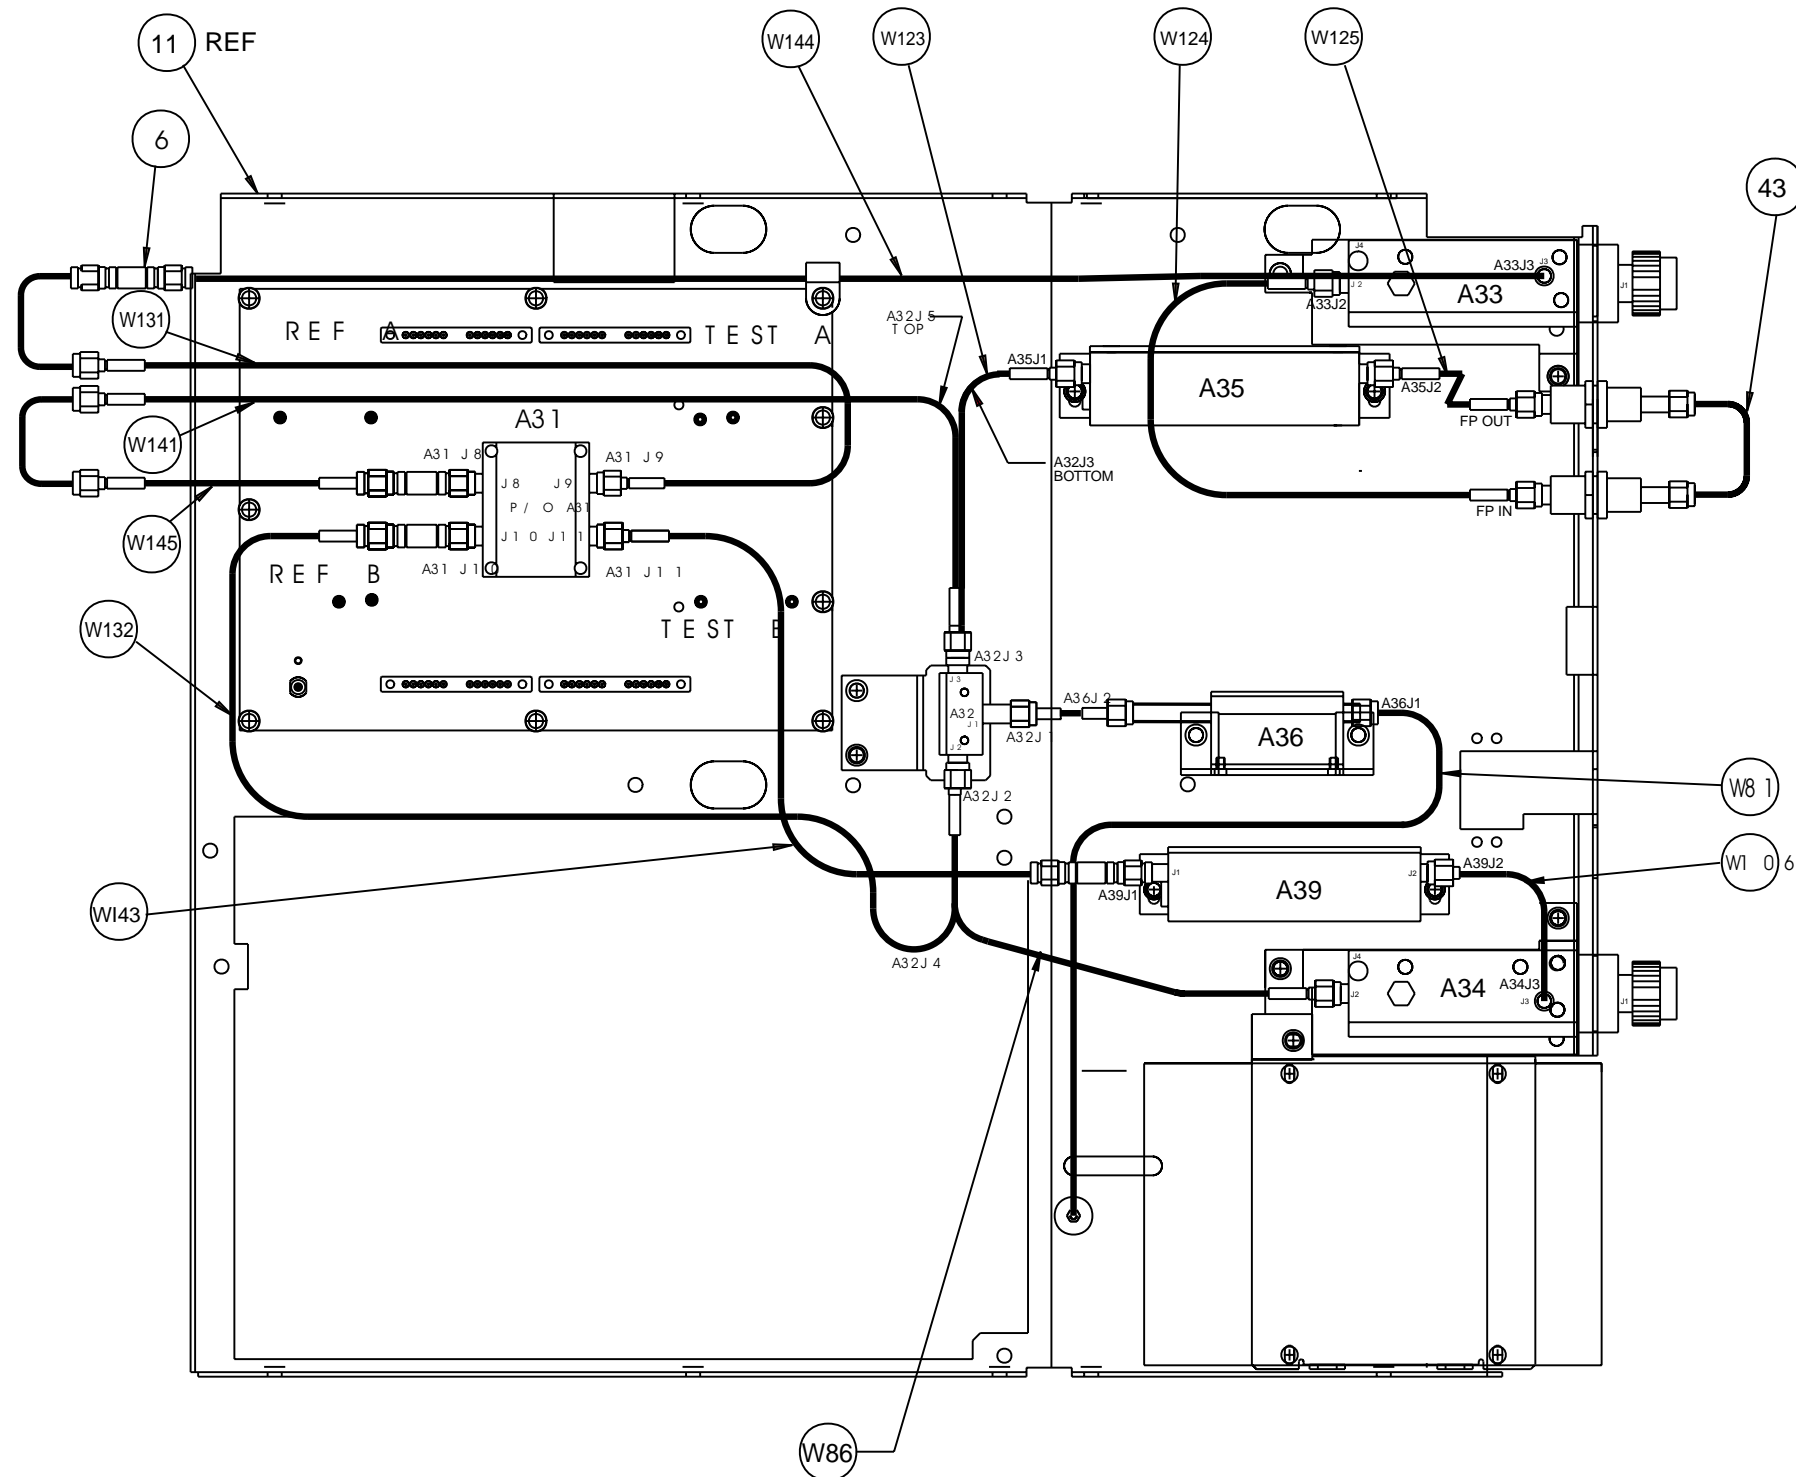

Figure 8-12. Test Set Module Components Layout Diagram for Model 37369A (with Options 6 and 11)
For Model 37269B: loosen the two screws that fasten the Transfer Switch mounting plate to the test set tray before disconnecting the semi-rigid coaxial line (W80). See Figure 8-12.
- Step 2. Disconnect the semi-rigid coaxial line W81 from the input connector of the SDM; see Figure 8-12.
- Step 4. Disconnect the semi-rigid coaxial line W80 from the output connector of the SDM; see Figure 8-12. Carefully lift the assembly from the Test Set Module.